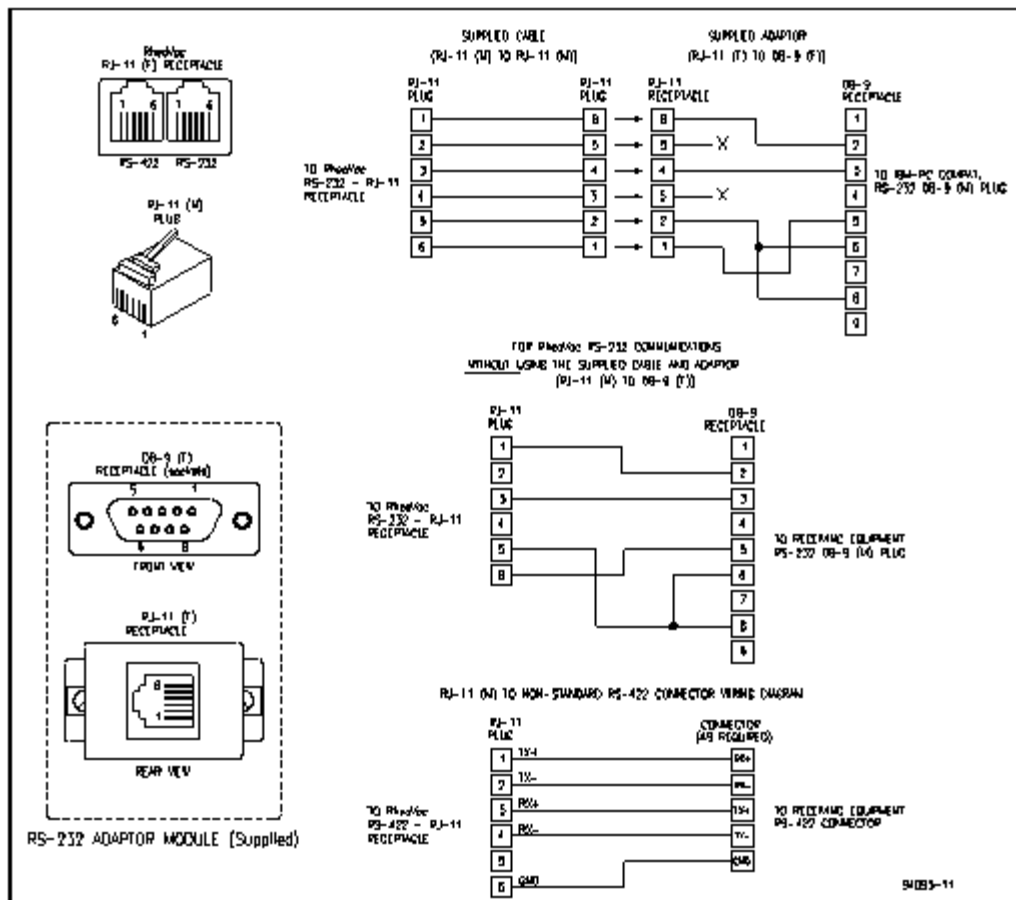

Figure 9 Serial Communications Interface
1. Sensor Power and Communication Line: Connect the distribution box to this main processor box using the RS-485 Communications/Power cable. Follow indicated connector color code. [*communications*: white (A), blue (B) and shield (SH); *power*: 24Vdc, red (+), and black (-)]
3. Serial Communication: Connector JP3 is the RS-232 serial communication interface. This interface should only be used for distances of 20 feet or less, such as to a laptop computer. A 20 foot serial cable with a DB-9 connector can be shipped upon request (see Figure 9 and Table I below). An RS-422 serial communication interface is present for long data communications when configured without 4-20 mA outputs.